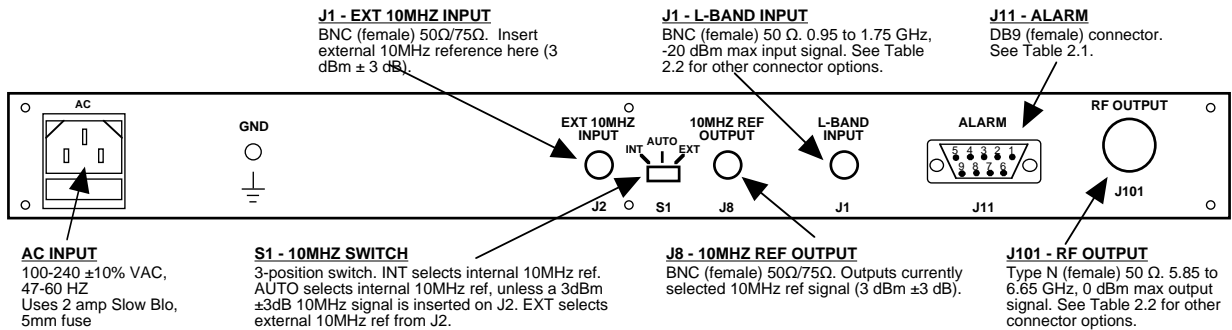

FIGURE 2.1 Rear Panel I/O's
Figure 2.1 shows the input and output connectors on the rear panel.
1. Connect a -40 dBm to -20 dBm signal to L-BAND INPUT, J1 (Figure 2.1).
5. Select either INT (for internal 10MHz ref), AUTO (for internal 10MHz ref UNLESS a external 10MHz, 3 dBm signal is connected to J2), or EXT (for external 10MHz, 3 dBm ref that is inserted at J2) on rear panel switch S1 (Figure 2.1).
7. Check that a 10MHz, 3 dBm \pm 3 dB signal is present at the 10MHZ REF OUTPUT (J8) (Figure 2.1).